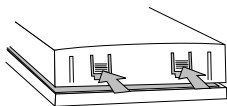

Figure 2
2. **Open chime case.** Press in both catches on the bottom of the chime and lift the case open (see Figure 2).